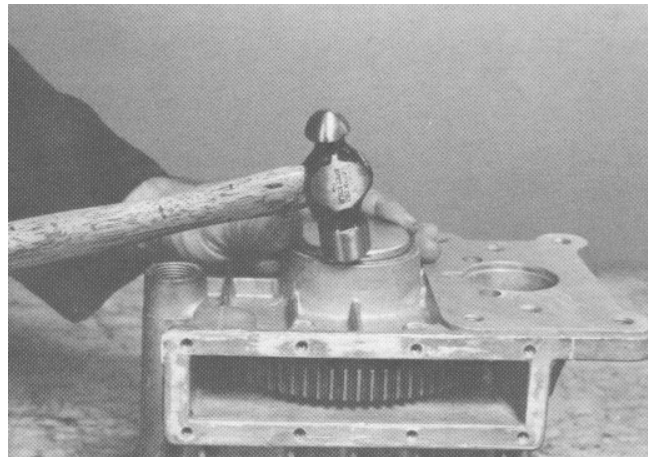

Figure 45
11. Apply a small bead of Permatex No. 2 or silicone sealant to the outer edge of the carrier bore. Install the expansion plug (or seal if equipped with pinion coupler for 4WD) into carrier until plug or seal seats firmly in carrier bore (Fig. 45).